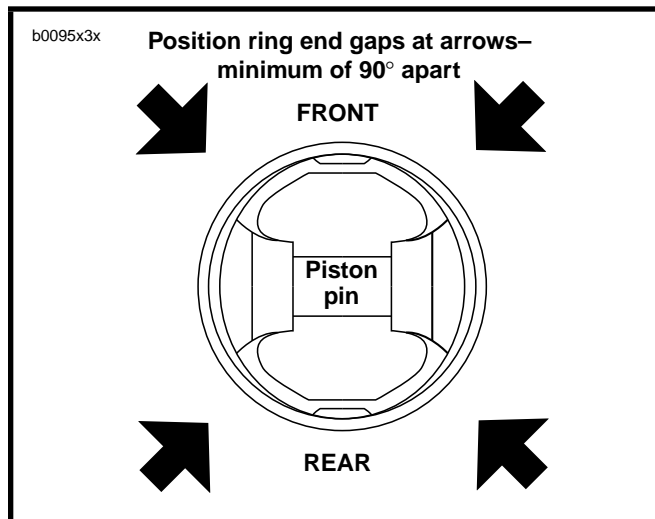

Figure 3-34. Ring End Gap Position
3. See Figure 3-34. Install rings so end gaps of adjacent rings are a minimum of 90° apart. Ring gaps are not to be within 10° of the thrust face centerline.
4. See Figure 3-34. Make sure the piston ring end gaps are properly positioned as shown.